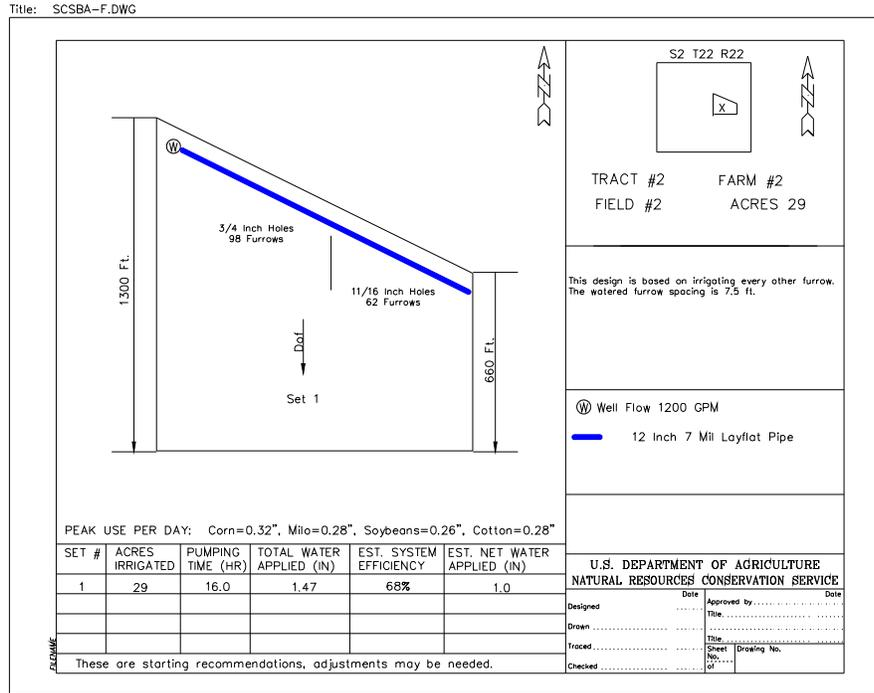

Figure 2.7 – Example 2 Plan View
**STEP 4:** See (fig. 2.7) for an example plan view of the field.